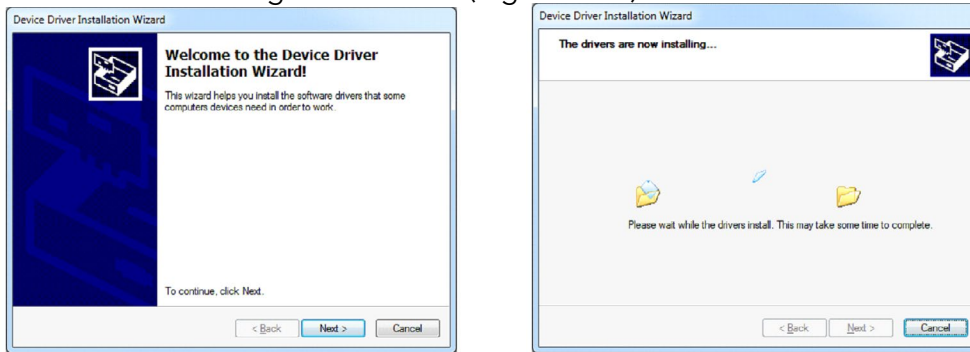

Figure 3.45. FTDI - Installation in Progress
8. Click **Next** to begin installation (Figure 3.45).